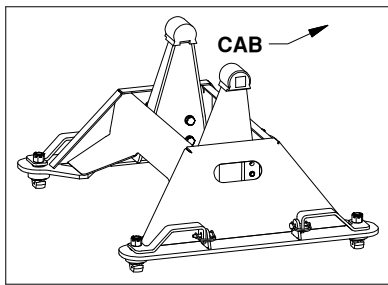
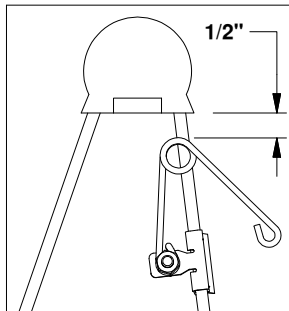

FIGURE B3: View of base.
FIGURE B4: Driver
2. Locate the flange which will be closest to the truck cab on the driver side pivot arm, see Figure B3. The clip should be placed so that when the springs coil is in the line with the edge of the arm there will be 1/2" of clearance between the bottom of the rubber bumper and the top of the spring, see Figure B4. Drive the clip securely onto the flange with a hammer.